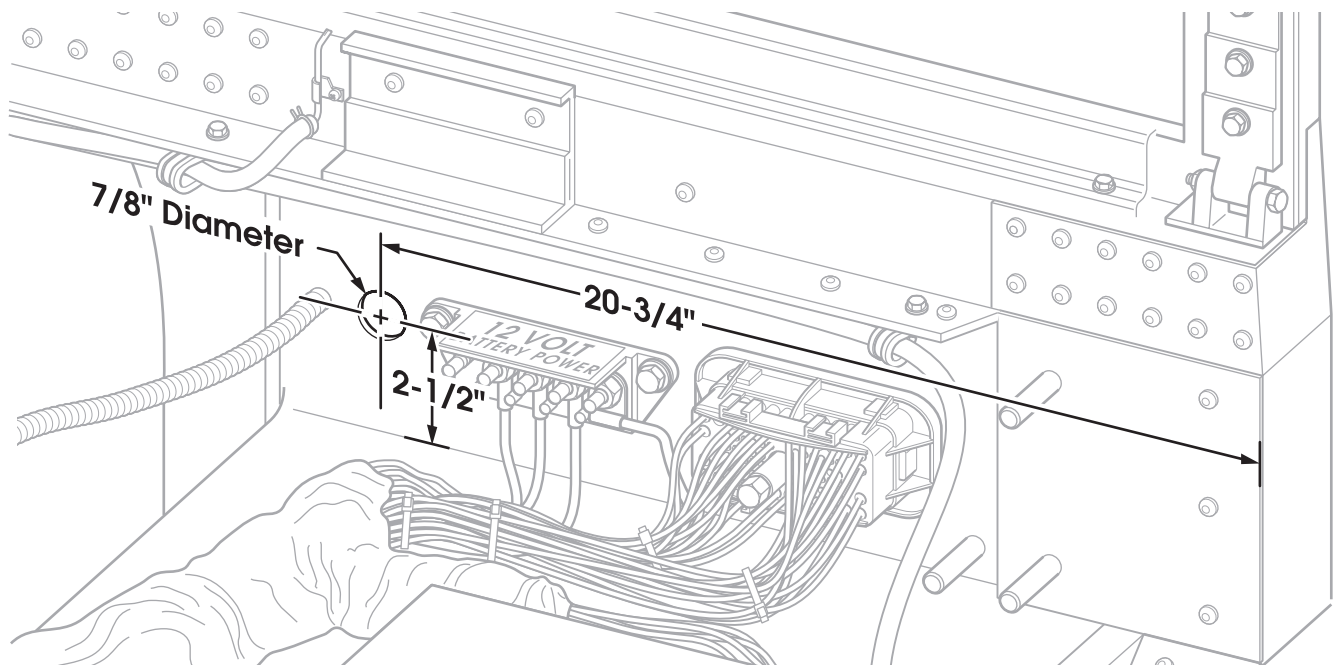

Figure 7: Measuring inboard from the cowl edge.
19. Mark and center punch the left side cowl 20 3/4 inches inboard and 2 1/2 inches up from the cowl top for the main harness entry hole (See Figure 7).